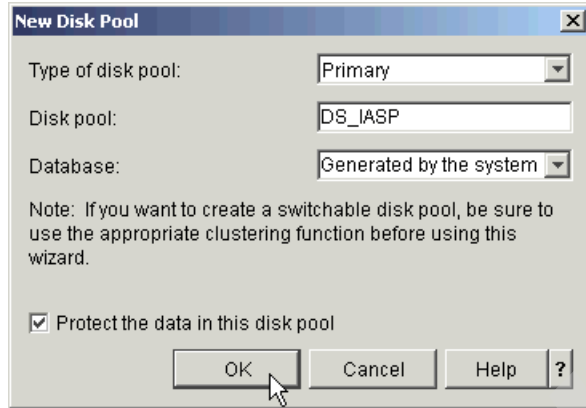

Figure 17-10 Defining a new disk pool
- In the New Disk Pool window shown in Figure 17-10, select **Primary** from the drop-down menu for the Type of disk pool, give the new disk pool a name, and leave the Database entry as the default **Generated by the system**. Ensure the disk protection method matches the type of logical volume you are adding. If you leave it unchecked, you see all available disks. Select **OK** to continue.